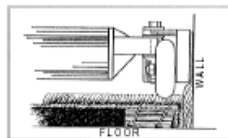

Figure 2
C. Finally, attach the Speed Roller Tail Block and place it against the stretch-off wall. The wheels of the Speed Roller Tail Block bridge over most existing base shoes, protecting it from damage. (See figure 2.)
C. The Speed Roller Tail Block bridges over most existing base shoes. (See figure 2.)